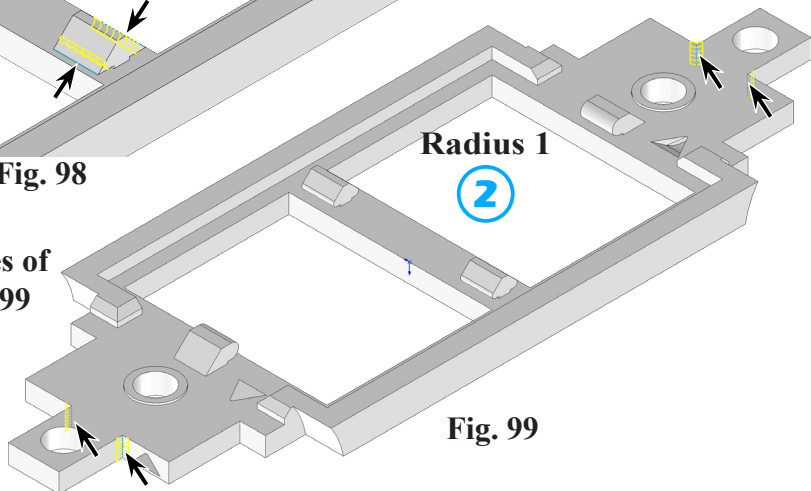

Fig. 99
② Radius 1
click both inside edges of both hitches (4), Fig. 99